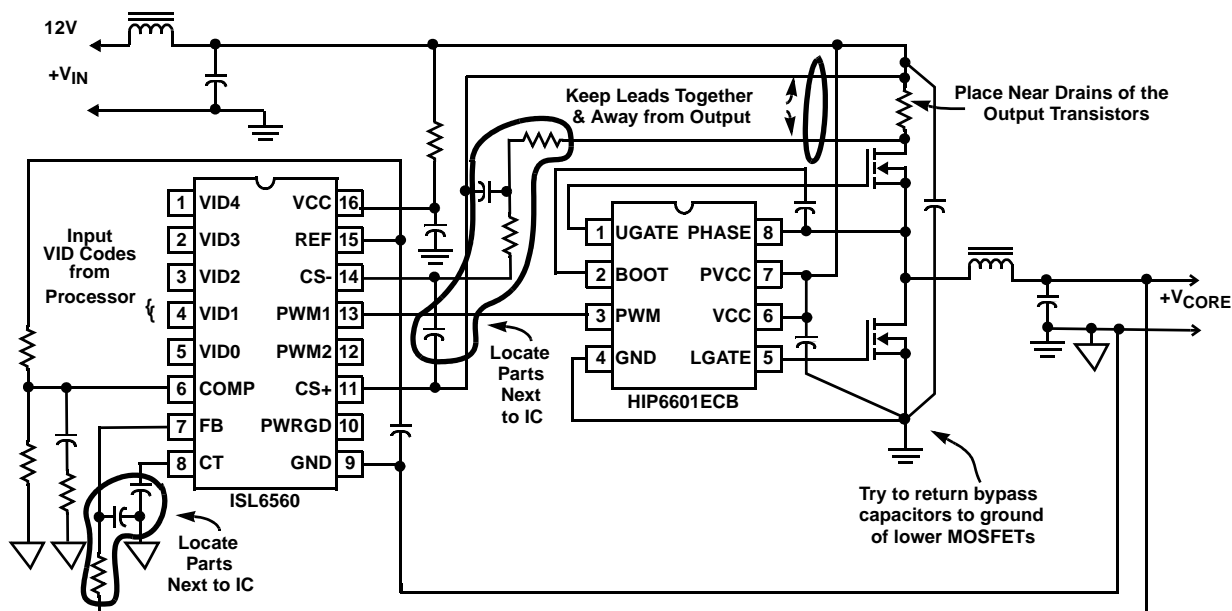

FIGURE 11. SCHEMATIC DIAGRAM SHOWING ONLY ONE CHANNEL OF 'IDEAL' COMPONENT PLACEMENT
Figure 11 shows a simplified diagram of the critical areas of a PC board layout. This diagram and the following material represent goals to work towards during the layout phase. Goals will be compromised during the layout process due to
1. To obtain optimum regulation use the Kelvin connection for the input voltage sample as shown in Figure 11. The ground connection, Pin 9 of the ISL6560 should be connected to the system ground at the load.
2. The two voltage sampling lines described in item 1 above should also be routed away from any high-current or high-pulse voltages such as the phase lines or pads. Doing this will reduce the possibility of coupling undesired pulses into the feedback signal and either modifying the output of the error amplifier or, if of sufficient amplitude, spuriously triggering the current comparator by readjusting the threshold voltage.